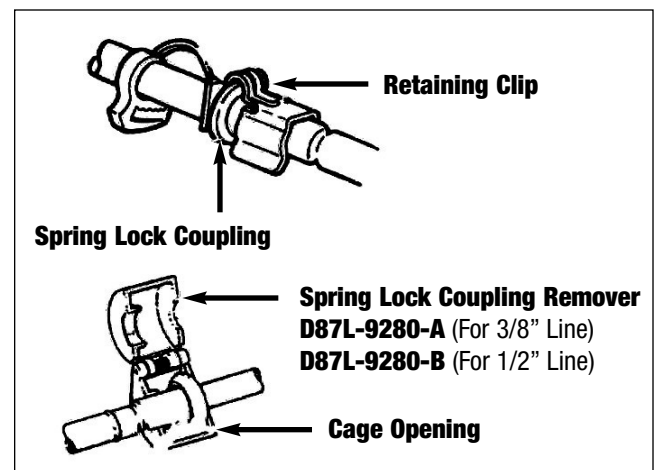

Figure 2 - Disconnecting Fuel Lines
3. Use Spring Lock Coupling Remover (D87L-9280-A) for 3/8" line or (9D87L-9280-B) for 1/2" line. Install spring lock coupling remover on fuel line so it enters cage opening (See Figure 2).